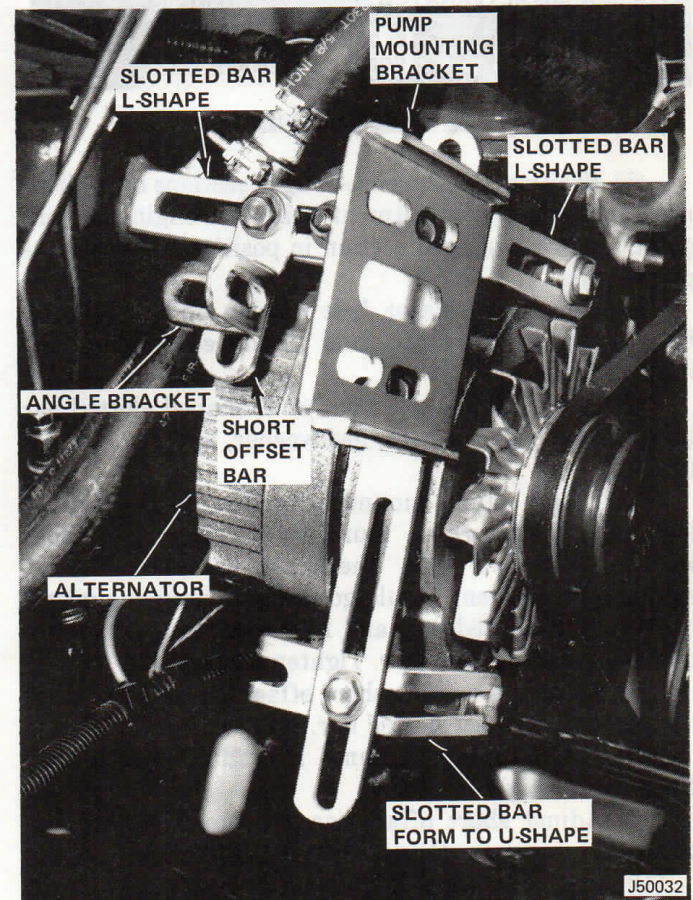

Fig. 1-31 Pump Support Bracket Installation—Six-Cylinder
(2) Remove alternator pivot bolt and install U-shape slotted bar piece at alternator pivot point. Replace bolt but do not tighten (fig. 1-31).